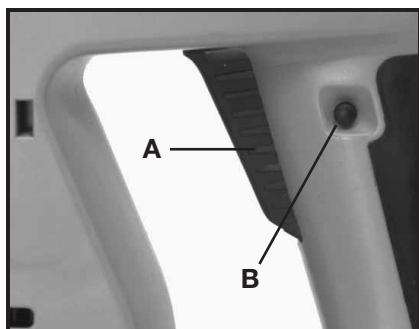

Fig. 1
4. Squeeze trigger switch (A) Fig. 1, to start motor. Release trigger to stop motor. As the trigger switch is squeezed the motor speed increases.
5. A lock button (B) Fig. 1, is provided to keep the motor running without holding the trigger switch ON. To lock the trigger switch ON, squeeze the trigger as far as it will go, push in lock button and release trigger.